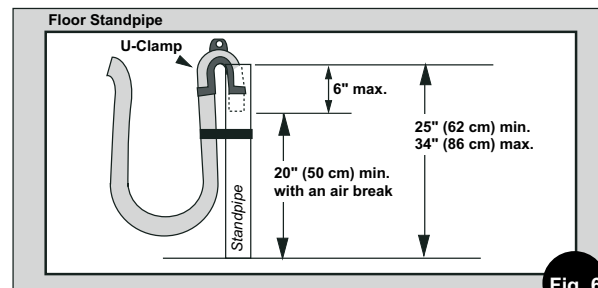

Fig. 6
- It is possible for the water to be discharged into a sink, standpipe or drainpipe, but an air break must be available at a min. 20" height to prevent the machine from siphoning (Fig. 6).
- Insert the outlet end of the drain hose into the standpipe, wall or floor drain (Fig. 6). *NOTE: The outlet end of the drain hose MUST be at least 20" (50 cm) above the base of the machine. No more than 6" of the drain hose should be inserted into the drain pipe to prevent siphoning.*